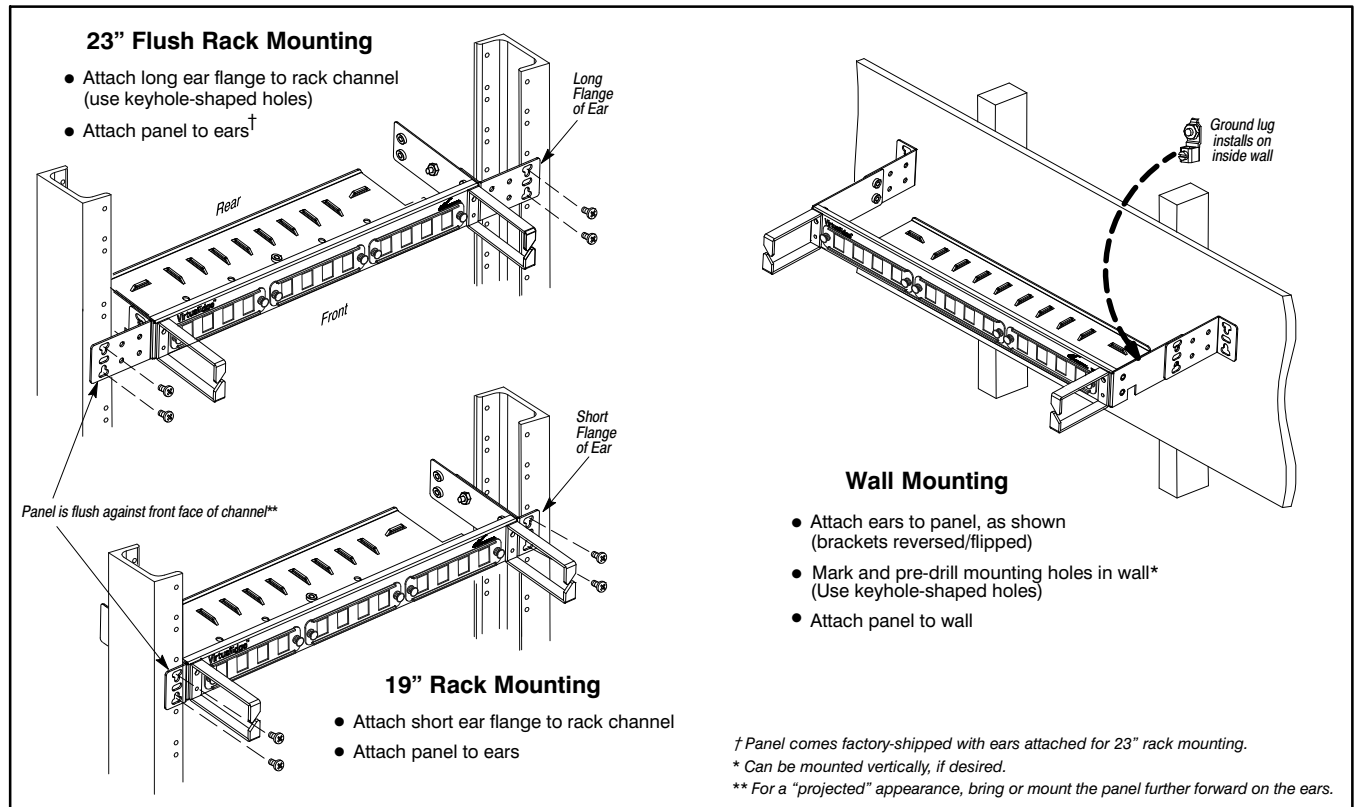

Figure 4. Mounting Views
Whenever this practice is updated, the reason will be stated in this paragraph. Revision B adds Paragraph 2.4 and updates the wall mounting drawing in Figure 4.
The panels can be rack or wall mounted using the included reversible mounting ears (included in the bag of parts). These ears allow flush or projected positions in both 19" and 23" standard EIA relay racks, or they can be flipped and repositioned at the back of the panel for wall-mounting. See Part 2 and Figure 4 for more detailed mounting information.
The VEUP-30 panel can be mounted on a wall or in 19" or 23" relay racks with standard EIA 1.75" hole spacing. When rack mounting, the panel can be installed so the front of it is flush with the front of the rack, or mounted in a projected position in the rack. The following paragraphs and Figure 4 provide further details. Screws to attach the mounting ears to the panel are provided, as well as screws to mount the panel to a rack.
2.4.1 The Westell VE panels are shipped from the factory with a ground lug (in a bag of parts) capable of accepting #6 ground wire for wall-mount applications. The installer should locate the ground lug and hex-nut from the bag of parts shipped with the panel and install the lug on the post located on the inside wall of the panel, securing the ground lug to the post with the nut (see Figure 4). The installer then makes the ground connection to the ground lug using a #6 ground wire and then grounds the panel to an earth ground or according to local installation procedures for grounding and bonding equipment.